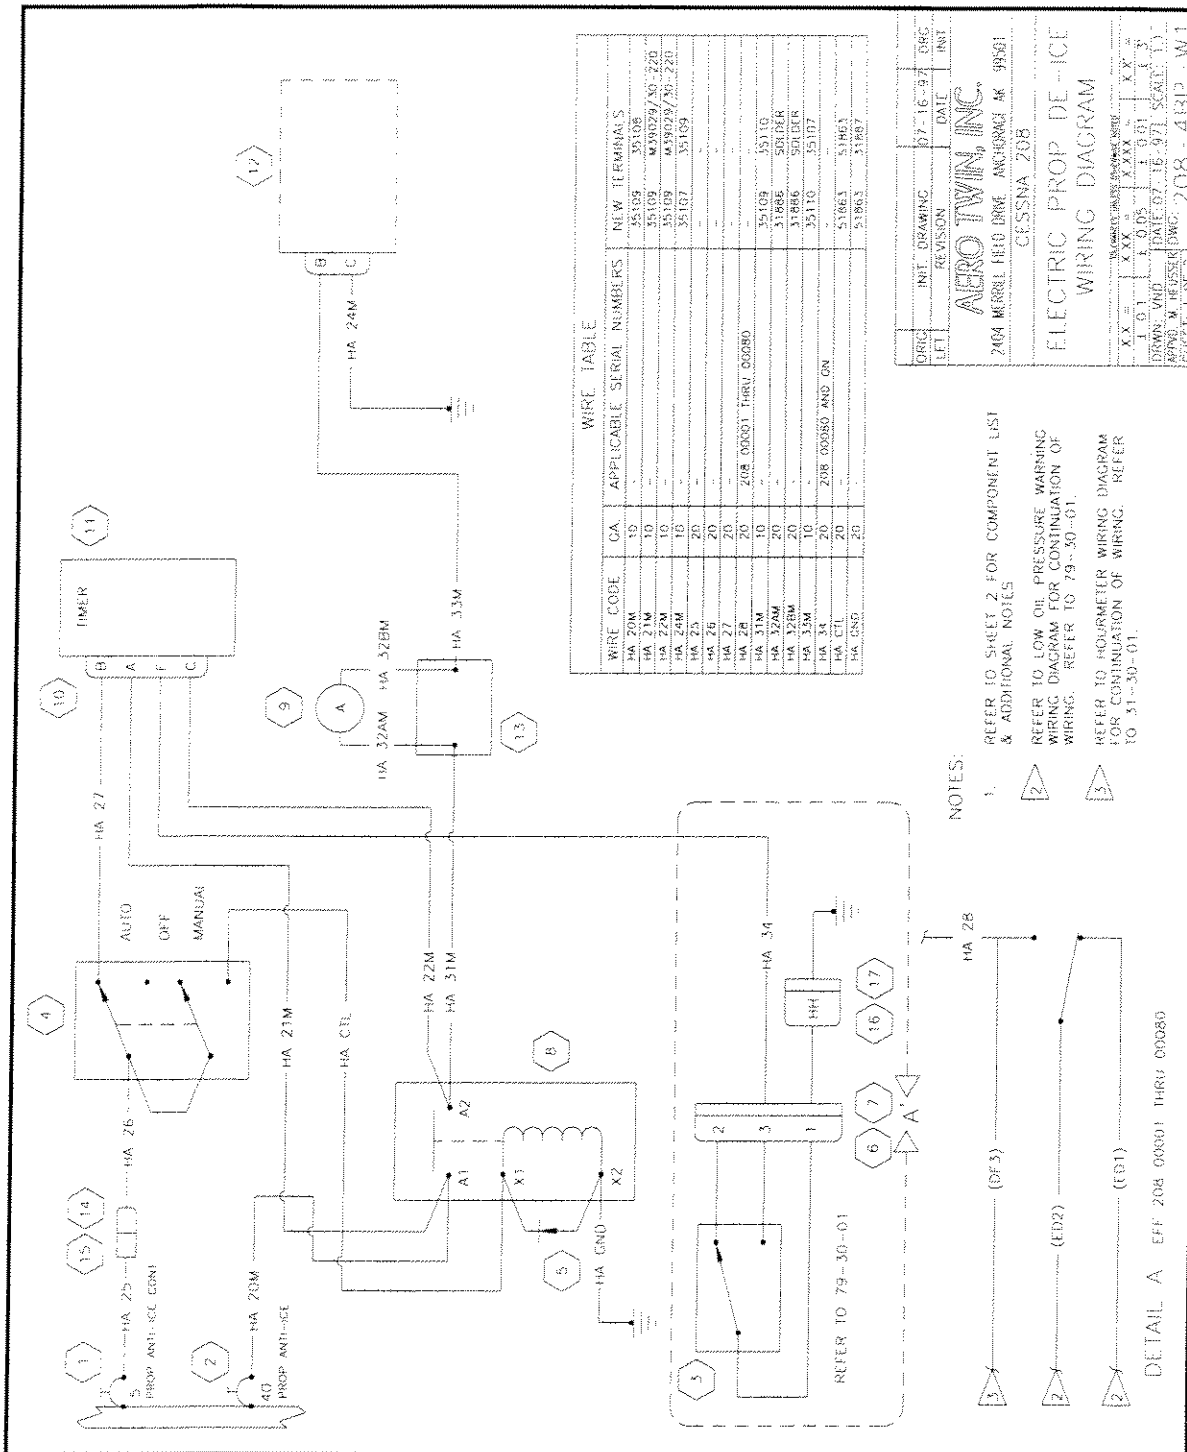

Figure 1 – Wiring Diagram – Electric Prop Anti-ice
- (1) Wire to conform to M22759/16 or equivalent.
- (2) Terminals to conform to MIL-T-7928 or equivalent.
- (3) MOV Varistor part number 2670069 to be removed and discarded.
- (4) Diode leads to be insulated using Teflon insulating tubing, part number TTI-S22 or equivalent.
- (5) Reference Cessna drawing number 2671000, Electric Prop De-ice, for original system configuration information.
- (6) All switches shown in auto position.
- (7) Wiring to be accomplished IAW AC43.13-1A/2A.
- (8) 208 serial numbers 0001 to 0179 and B0001 to B0209 aircraft were originally equipped with two 30 AMP "STBY PWR" circuit breakers and must be replaced with two 40 AMP circuit breakers IAW wiring diagram – Standby Alternator, 24-31-00 Figure 1, Dated August 1, 1995 or later revision.
- (9) Installing Agency may use wire numbers other than those indicated on Figure 1.